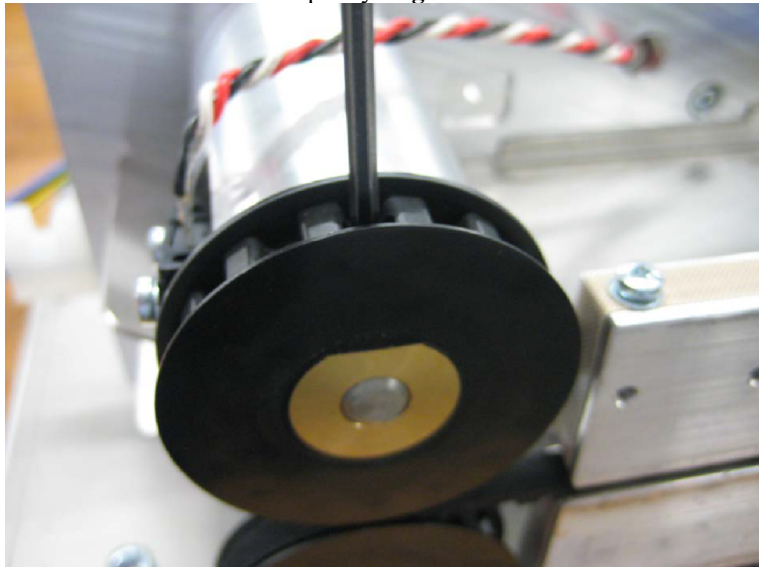

Figure 4
4. Remove the screw inside the pulley. **Fig. 4**